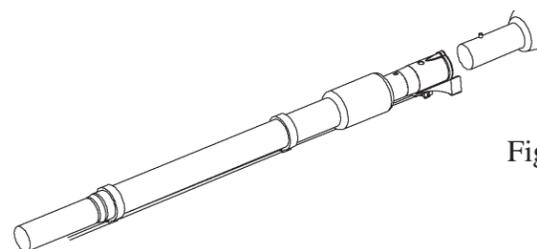

Figure 5a
2. Insert hose end into the Powerbrush wand on the assembled Powerbrush. For proper electrical connection, ensure the spring button lock pops out (Figure 5a).